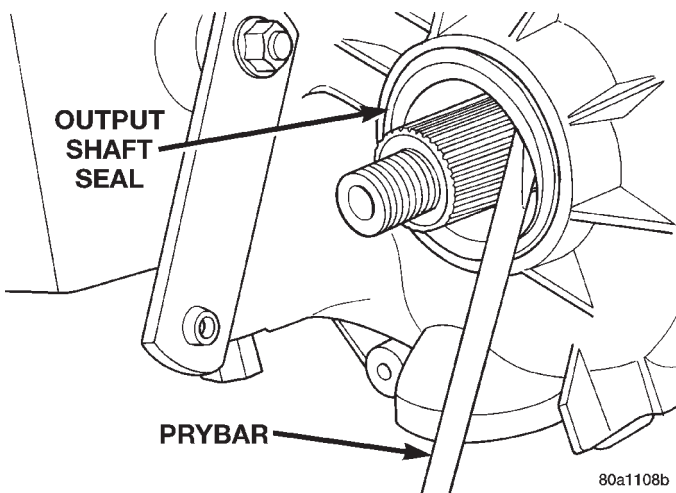

Fig. 6 Remove Front Output Shaft Seal
- (1) Raise vehicle.
- (2) Remove front propeller shaft. Refer to Group 3, Differential and Driveline, for proper procedure.
- (3) Remove front output shaft yoke.
- (4) Remove seal from front case with pry tool (Fig. 6).